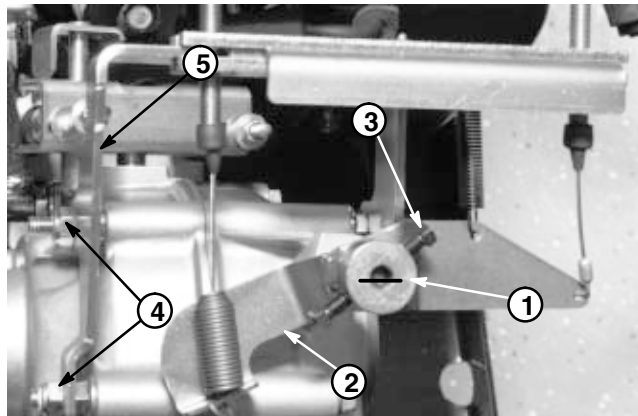

Figure 21
5. Remove governor and cable brackets from the transaxle as follows (Fig. 21).
6. Secure governor and cable brackets to the transaxle as follows (Fig. 21).